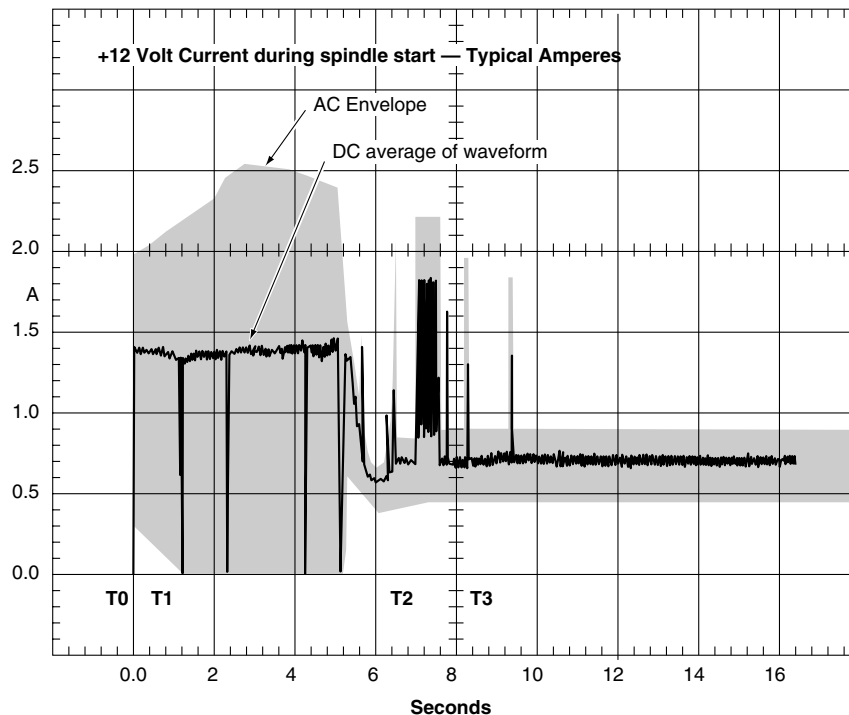

Figure 3. Typical ST336752FC drive +12V current profile
- [3] See +12V current profile in Figure 3.
The +12V and +5V current profiles for the ST336752FC and ST318452FC models are shown below in figures 3, 4, 5, and 6.